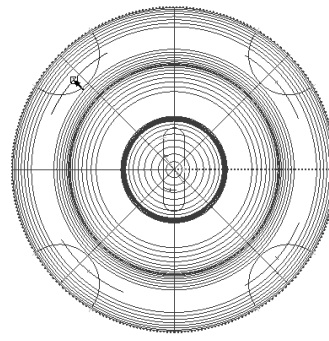

Figure 7-58 Crosshairs displayed on the base feature
3. Click on the unwanted portions of the base feature; crosshairs are displayed on the base feature, as shown in Figure 7-58. Also, the **Keep**, **Discard**, and **Divide** buttons are displayed in the active state.